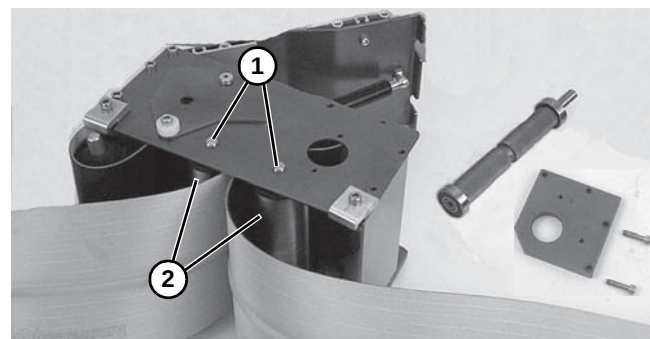

Figure 50
- For 5” (127 mm) or wider conveyor, depress both sides of each spring-loaded shaft (**Figure 50, item 1**). Remove pulleys (**Figure 50, item 2**).